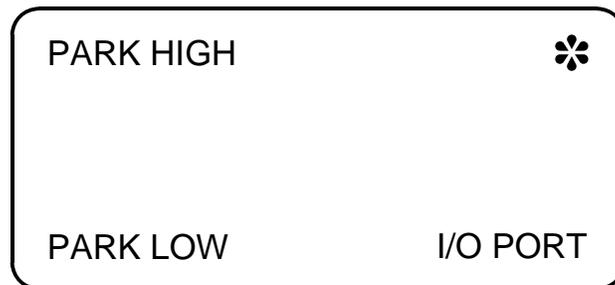

Figure 6-2 ❁ (Daisy) Key Display
1. While the operating display is visible press and hold down the ❁ (Daisy) key to view the ❁ (Daisy) key display (Figure 6-2), press the MENU key to extend the I/O port slot, then release both keys. The I/O port door opens automatically when the I/O port slot extends.
While the operating display is visible, press and hold down the ❁ (Daisy) key to view the ❁ (Daisy) key menu (Figure 6-2), press the ▲ (UP) or ▼ (DOWN) key to execute the PARK HIGH or PARK LOW command, then release both keys.